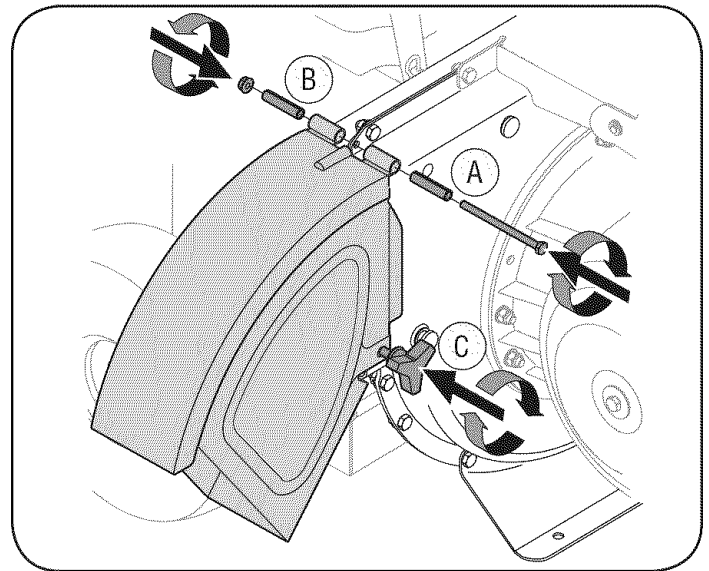

Figure 4
- Align the chute deflector in position on the discharge opening and insert hex bolt with spacer through hinge on chute deflector (spacers fit inside of hinges). See Figure 4.